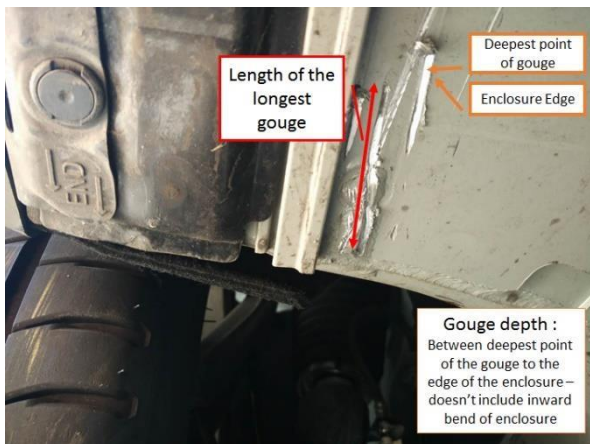

Figure 21 – Gouges in the baseplate
- A dent or deepest point of gouge is **8 mm** or more in depth (Figures 21 and 22).